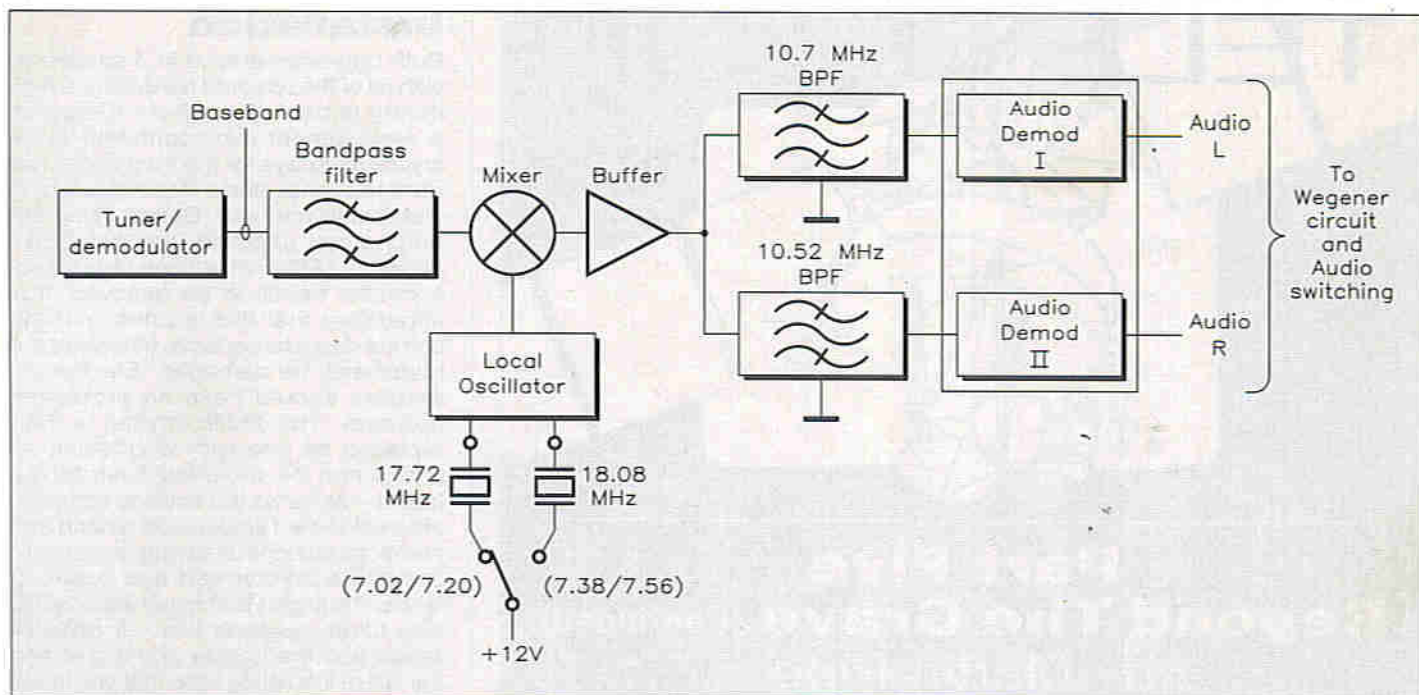

Figure 5. Block diagram of 'Amstrad-style' fixed-subcarrier audio system.
The Amstrad audio system, shown in Figure 5, is simple but effective. Based on the superheterodyne principle (refer to Ian Poole's article in Issue 59 of 'Electronics'), its circuit is based around a local oscillator (LO) that can be switched to operate on either 17.72 or 18.08MHz. The LO is then mixed with the baseband signal. And now for the clever bit. The mixed signal is sent to two demodulators, each via a different ceramic IF filter; one is centred on 10.52MHz, the other 10.7MHz. When the incoming subcarriers are 7.02 and 7.20MHz, the 17.72 LO frequency is used. As a result, the difference frequencies applied to the relevant IF filters are $(17.72 - 7.02 =) 10.7\text{MHz}$ and $(17.72 - 7.20 =) 10.52\text{MHz}$. When the desired subcarriers are 7.38 and 7.56MHz, the LO is switched to operate at 18.08MHz, whereupon the different frequencies will still be 10.7MHz $(18.08 - 7.38)$ and 10.52MHz $(18.08 - 7.56)$.